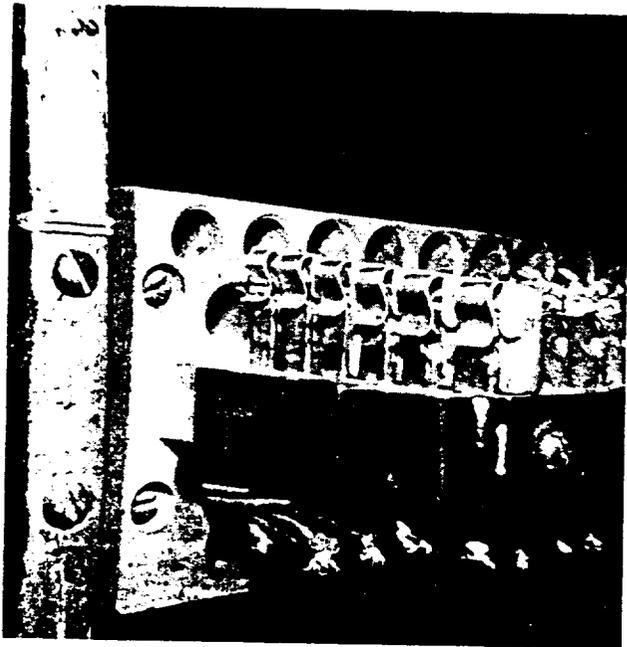

Figure 3 – Connector Placed in Intercepted Line
3.03 Press the connector down on the terminals so that the tip, ring and sleeve of the telephone number are bridged with the intercepting terminals. (See Figure 3.)
3.04 To prevent placing the connector in a reversed position, the small end of the connector is placed closest to the workman with the spring contacts to his left. (See Figure 3.)